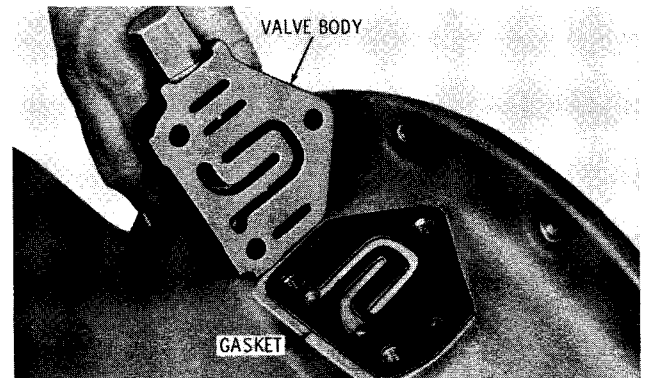

Fig. 7-23. Installing splitter clutch control valve assembly (earlier model VS2)
(3) Install five 3/8-16 x 3-inch bolts 7 (B, foldout 14) and lockwashers 6, and two 3/8-16 x 1 3/4-inch bolts 9 and lockwashers 8. Tighten the bolts uniformly to 26 to 32 pound feet torque.
(4) On earlier VS2 series only, install splitter clutch control valve gasket 4 (fold-out 15) on the mounting pad of the main housing (fig. 7-23). Install splitter clutch control valve assembly 5 onto the gasket. Install three 3/8-16 x 2-inch bolts 2 (foldout 15) and lockwashers 3. On later models, install gasket 18 and valve assembly 19. Install two 3/8-16 x 2 3/4-inch bolts 16 and lockwashers 17, and one 3/8-16 x 3 3/4-inch bolt 14 and lockwasher 13 to retain the valve to the housing (fig. 5-4). Tighten the bolts uniformly to 26 to 32 pound feet torque.